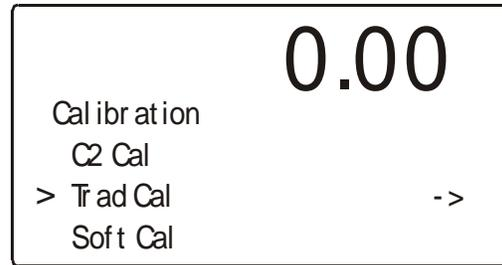

FIG. 2-6 CALIBRATION/SELECTING TRADITIONAL CALIBRATION
Step 11. Press the "-" button until the cursor is in front of "Trad Cal". (See Fig. 2-6)